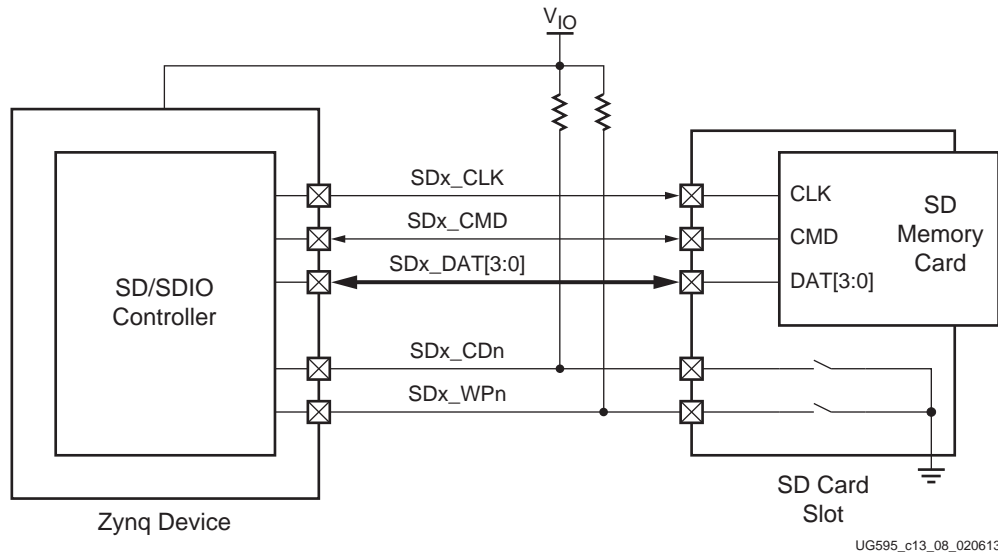

Figure 13-8: SDIO Controller SD Card Detect and Write Protect Diagram
- Secure digital (SD) memory
Some SD card slots provide two additional pins: card detect (CDn) to signal the insertion or presence of a card, and write protect (WP) to report the position of the write protect switch on the memory card. These signals must be externally pulled up. The card normally pulls CDn Low when inserted. If the WP switch is set to protect the card from writes, then the WP signal remains High. The wiring schematic is shown in Figure 13-8. If the card does not function in this manner, then an alternate method is required to signal the insertion or presence of the card. Additional board design information is located in UG933, *Zynq-7000 All Programmable SoC PCB Design Guide*.